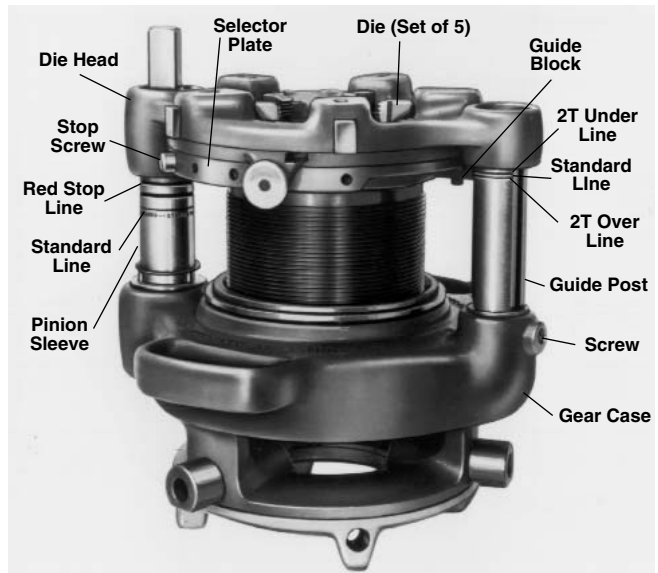

Figure 17 – No. 141 Geared Threader with 844 Drive Bar Installed (No. 161 Threader Similar)
1. Remove stop screw (*Figure 17*) from selector plate.
IMPORTANT! Allow approximately 3/4" of V-shaped grooves exposed in front of chuck jaws (*Figure 17*) to allow space for oiling.
5. 141 and 161 – Release foot switch when red STOP line appears on pinion sleeve (*Figure 17*).
IMPORTANT! Allow approximately $\frac{3}{4}$ " of V-shaped grooves exposed in front of chuck jaws (*Figure 17*) to allow space for oiling.